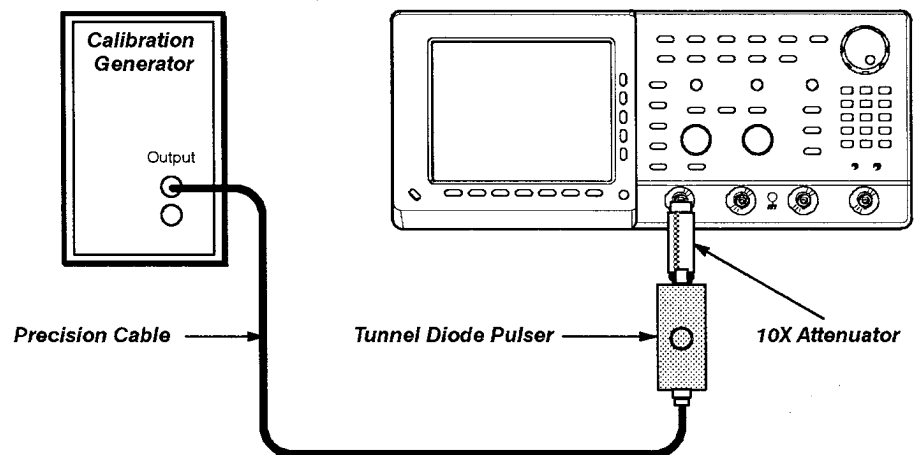

Figure 5-8: Initial Test Hookup
- Connect the high-amplitude output of the calibration generator, through a 50 Ω precision cable to the input of a tunnel diode pulser (see Figure 5-8).